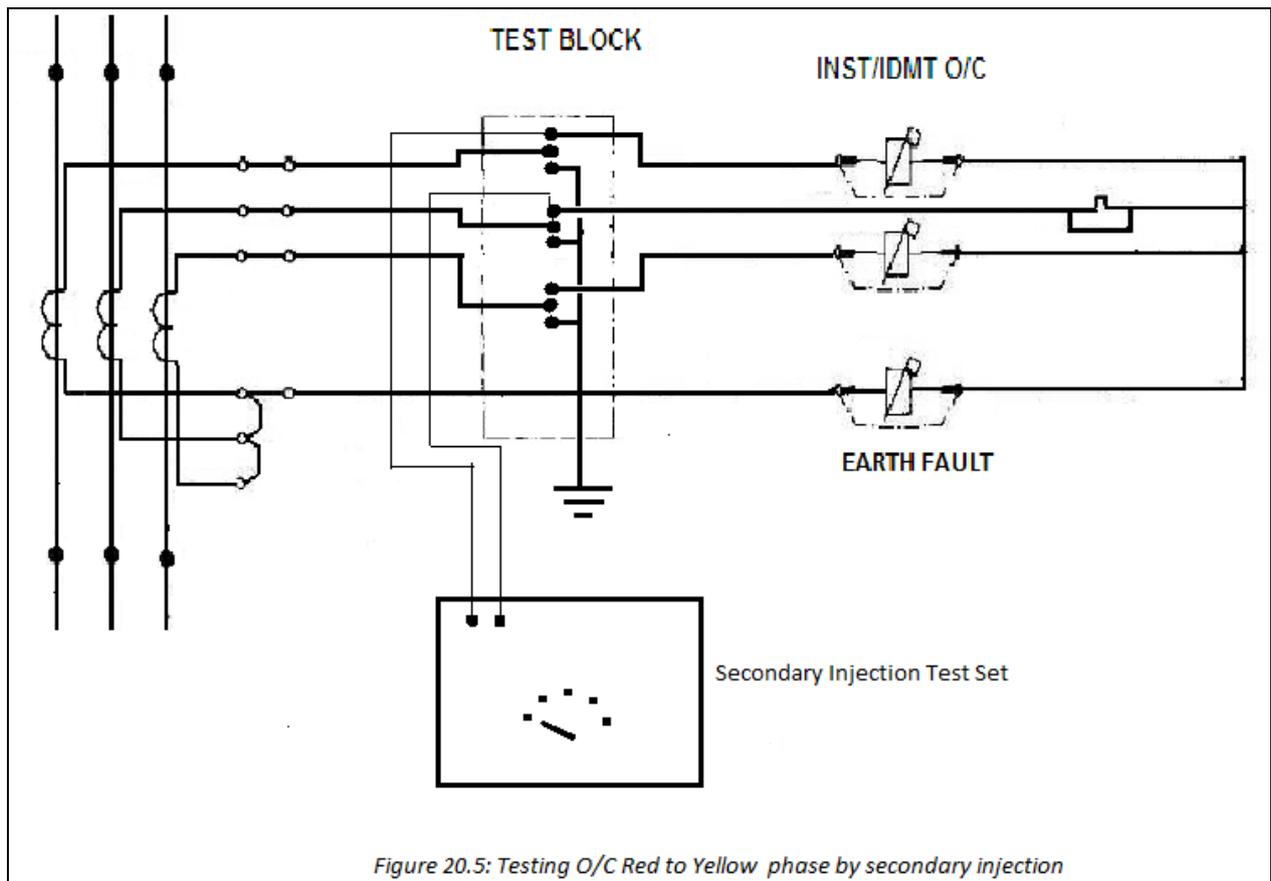

Figure 20.5: Testing O/C Red to Yellow phase by secondary injection
- IDMT (Instantaneous) Overcurrent elements are tested by injection of either primary, secondary or test winding current at multiples of the relay setting. Refer to *Figure 20.5 and 6* for connections for secondary and primary injection respectively. Relay trip times are recorded at 2, 4 and 6 times the full load current by setting the current at the required value and switching on the test set controls for current and timing circuits. For primary and secondary injection test leads are connected across a pair of phases in turn, i.e. Red to Yellow, Red to Blue and Yellow to Blue.